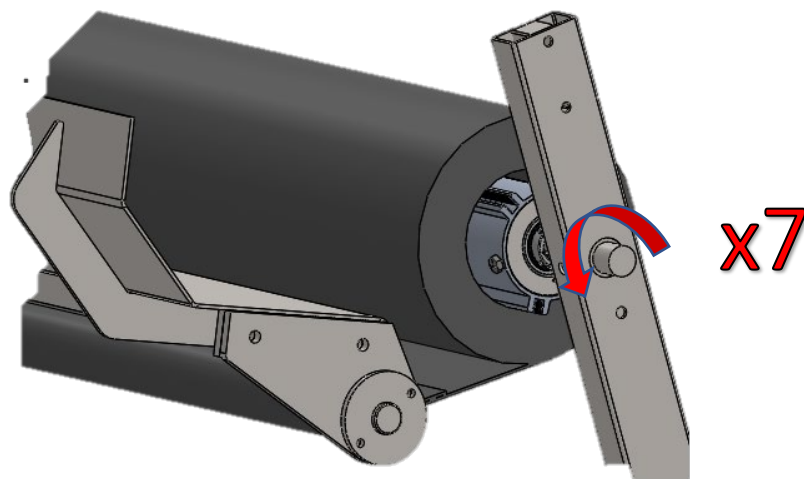

Figure 3 – Inserting Roll Tube Shaft into Arms
8. Insert roll tube shaft into arms. This will require the removal of the stabilizer bar. See Figure 3.